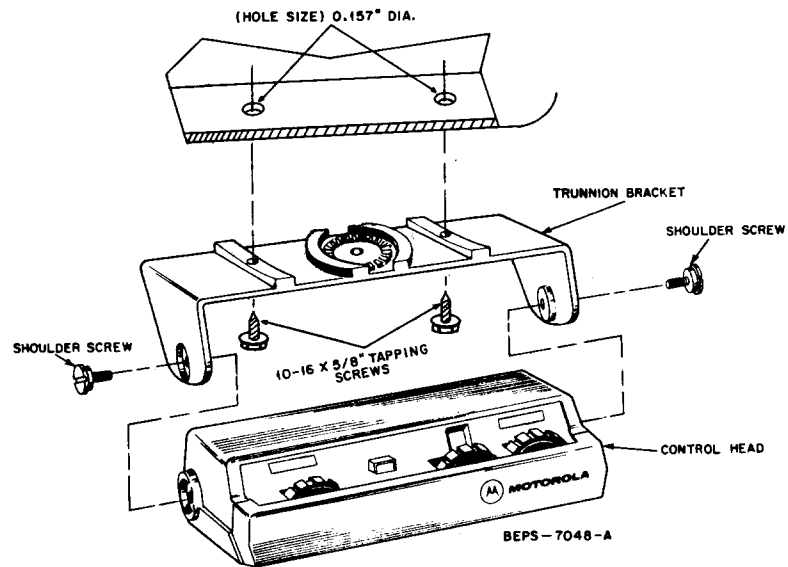

Figure 1.
(1) Determine the location for mounting the control head. The control head should be positioned within easy reach of the operator.
(2) Remove the trunnion bracket and retainer assembly from the control head by removing the two trunnion side screws (see Figure 1).